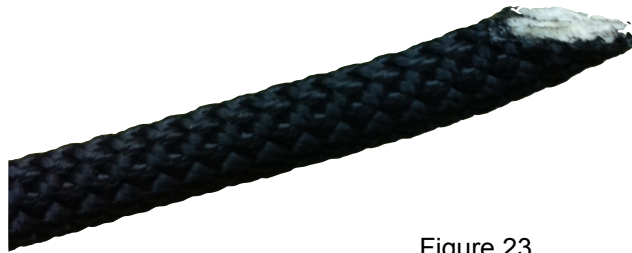

Figure 23
**Tip:** Using a hot knife or rope cutter, cut the Drope at an angle as shown in figure 23. This will assist with feeding the Drope through the hole in the small flange.